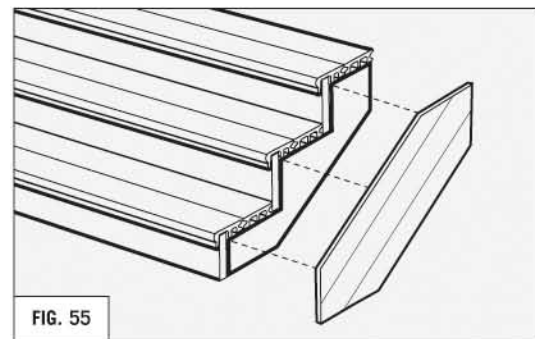

FIG. 55
- A full width of Eon fascia cladding can be attached to the stair stringers to cover the open triangular space created by the step width and height. To achieve the same appearance on both sides of the stringer cladding, two pieces of cladding, placed back-to-back, can be attached to the stringer. Alternatively, a solid lumber stringer can be attached to the stringer, and be covered with the fascia cladding. Trimming an extra width of cladding may be required to achieve full coverage of the stringer width. Slot all holes before attaching with #8 deck screws. (REFER TO FIG. 55)